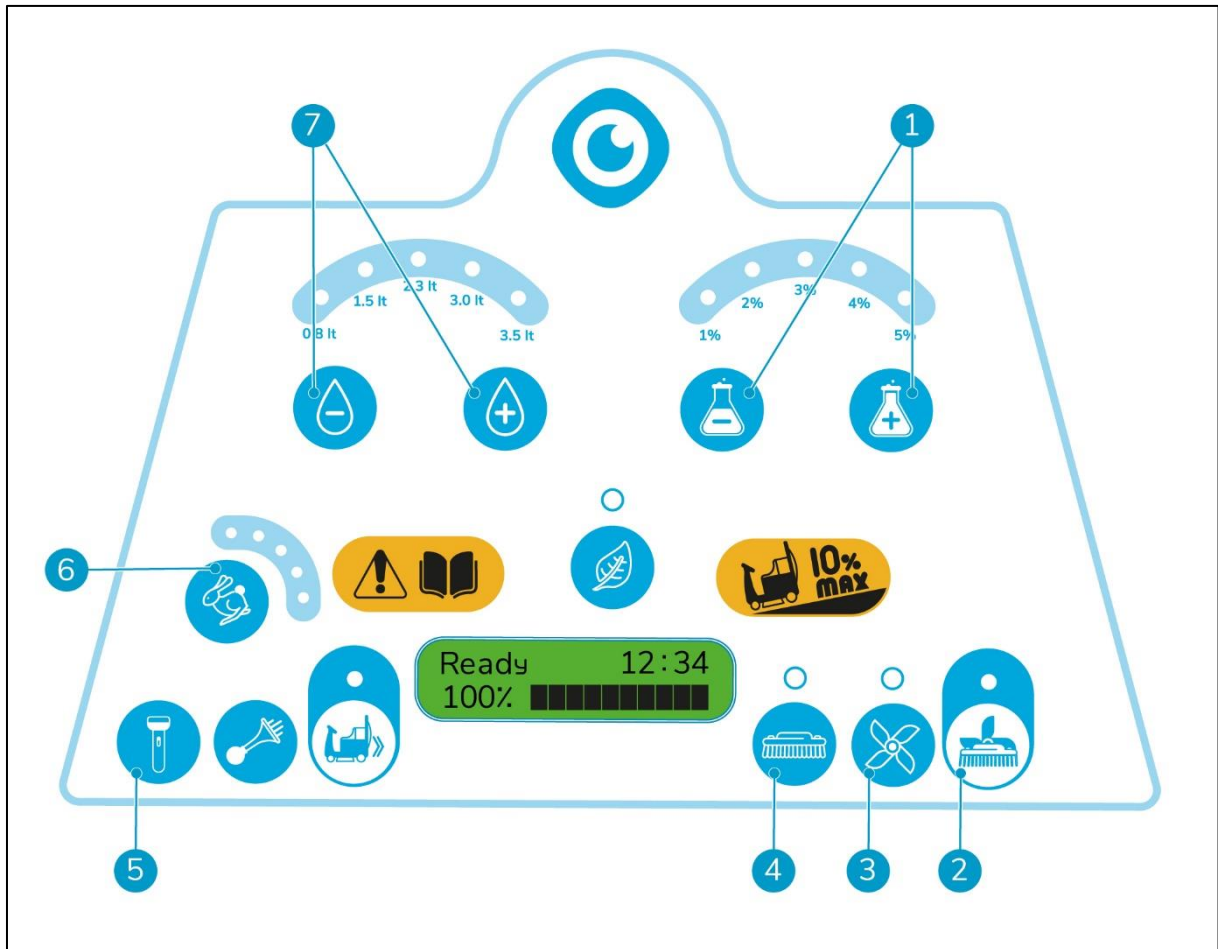

Figure 26
1. Choose the amount of water to use. Push the water touch buttons (Figure 26, pos 7) for more or less water. There are five different levels, see section 2.1.
3. Push the detergent touch buttons (Figure 26, pos 1) for more or less detergent. There are five different levels, see section 2.1.
- disc brush motor ON/OFF (Figure 26, pos 4) or;
- vacuum motor ON/OFF (Figure 26, pos 3) or;
- disc brush and vacuum motor ON/OFF (Figure 26, pos 2).
5. Turn on the working lights (Figure 26, pos 5).
6. Choose your speed (Figure 26, pos 6).